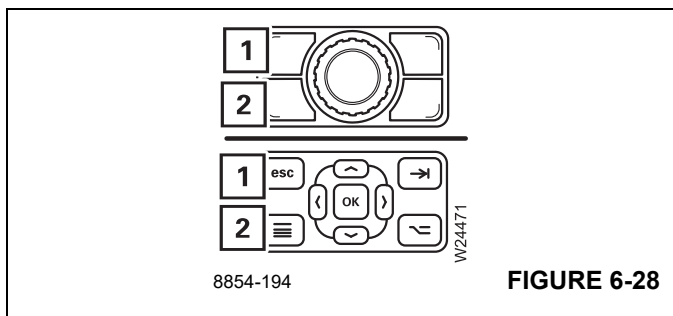

FIGURE 6-28
If necessary, open the main menu and press the button (1), (Figure 6-28) once.